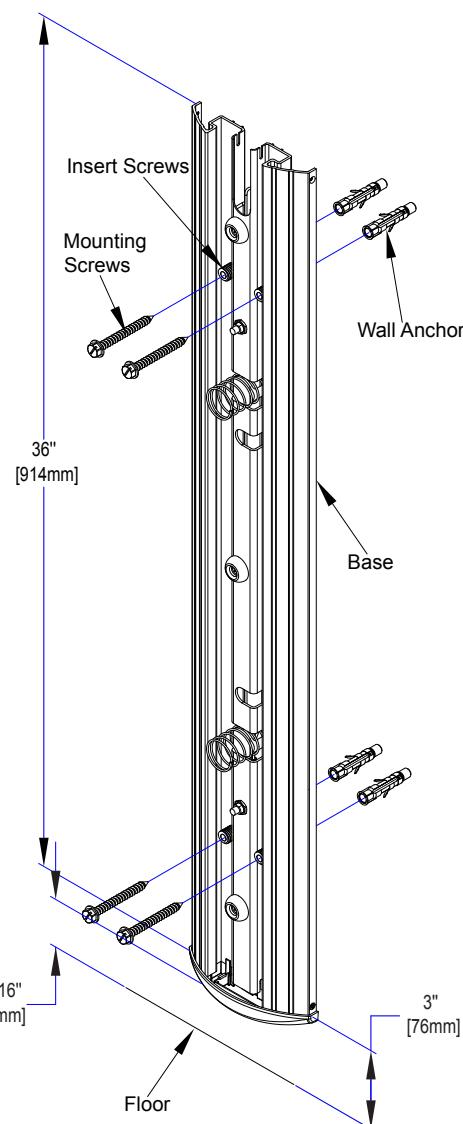

Figure 4.2 Mounting of Base Unit
3. Determine/mark the optimum height and mounting location from the finished floor to mount the Column™ Switch. (See Figure 4.2 and 4.3)